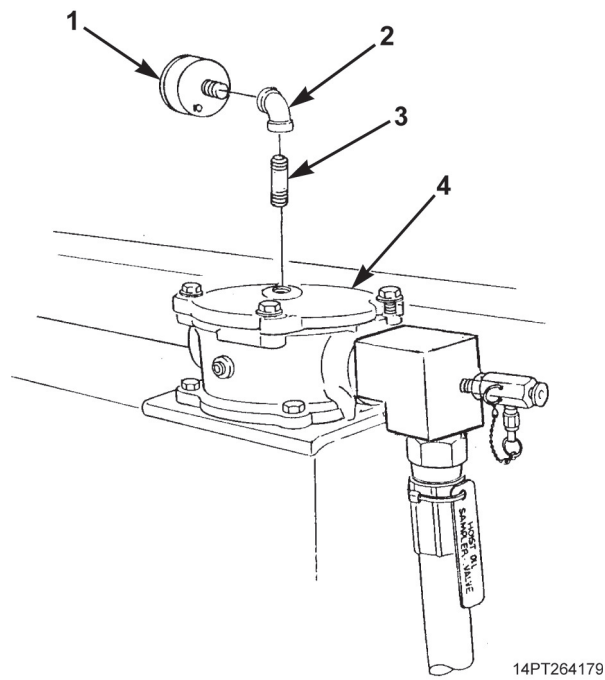

Figure 1. Hydraulic Oil Filter Service Indicator Gauge Removal.
1. Remove gauge (Figure 1, Item 1) from elbow (Figure 1, Item 2).
2. Remove elbow (Figure 1, Item 2) and nipple (Figure 1, Item 3) from filter housing cover (Figure 1, Item 4).